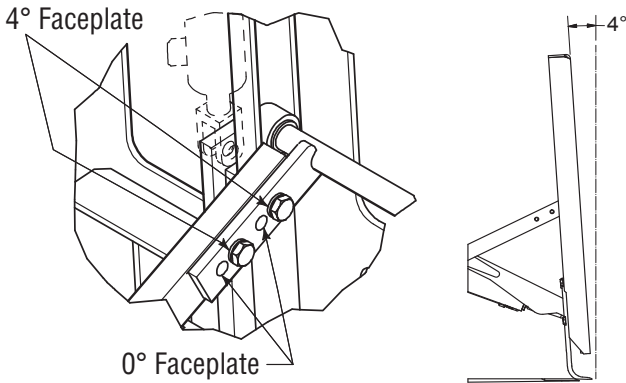

Figure 6-6, Stabilizer Arm Alignment
4. Use the stabilizer arm holes to align the faceplate at the desired angle. Insert bolts into the threaded holes and tighten securely. (Figure 6-6)